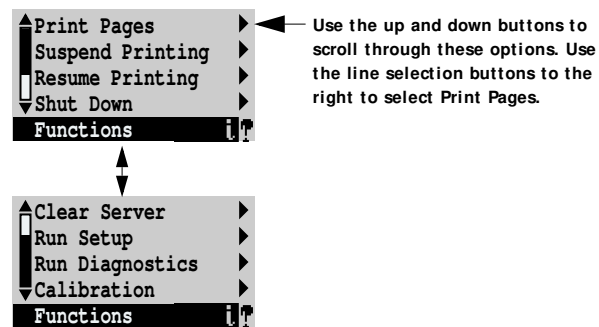

FIGURE 3-4 Functions menu
4. At the Idle screen, press the menu button once (see “Using the Control Panel” on page 3-11). The Functions menu appears as shown in Figure 3-4.